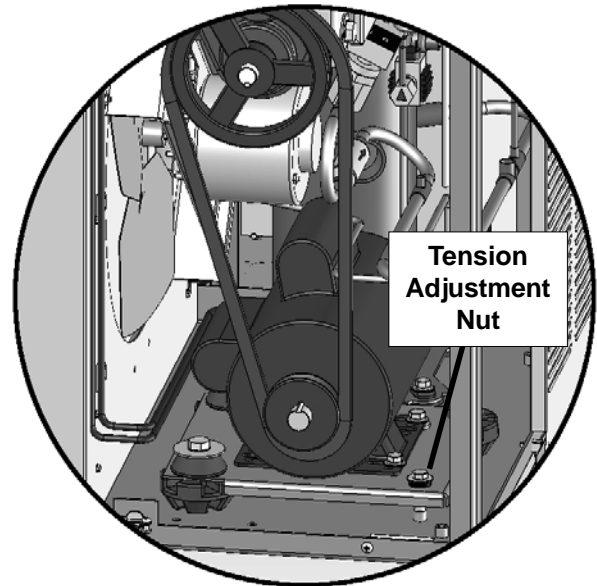

Figure 6-5 Motor Removal
5. Loosen the belt tension adjustment nut and remove the belt. (Refer to Figure 6-5)